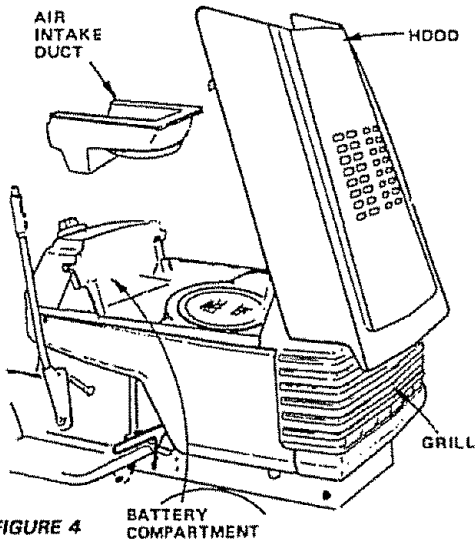

FIGURE 4
- a. Lift hood from rear sides (Fig. 4).
- i. Replace air intake duct (Fig. 4). Make sure bottom lip of duct sits between battery and lip of battery tray.